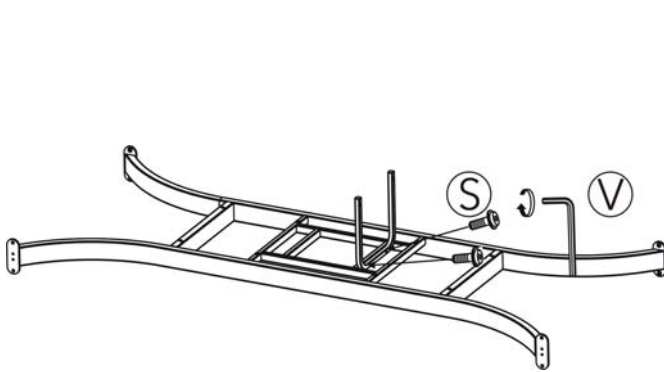
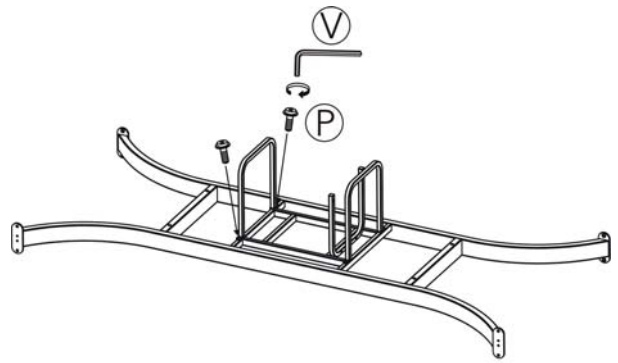

Figure 2a
Figure 2b
2. Attach the LP support bracket to the LP support frame by using two 1/4"x30 mm bolts as shown in Figure 2a. Attach two middle supports to the LP support frame by using four 1/4"x20 mm bolts as shown in Figure 2b. Use the hex bolt driver to tighten all bolts.